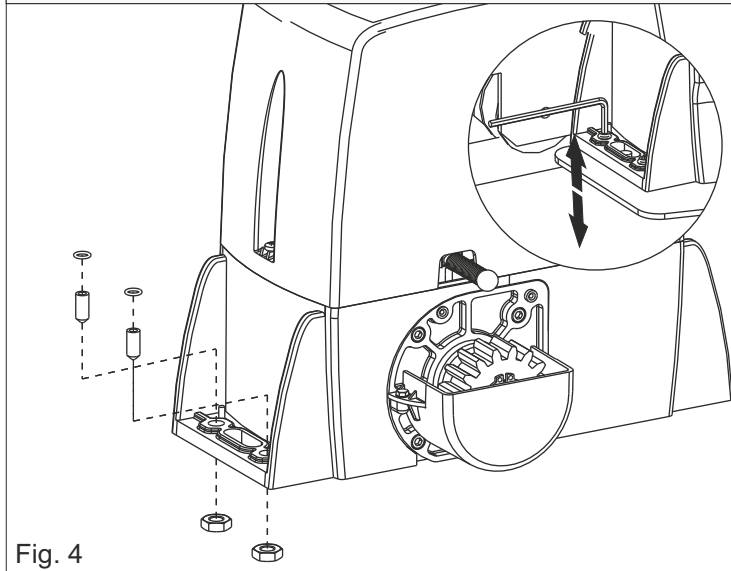

Fig. 4
4.1. Insert the 4 grub screws into the special holes, in order to adjust the gearmotor height on the plate (Fig. 4) **At the end of installation check if the 4 grub screws are well gripped on the foundation plate**